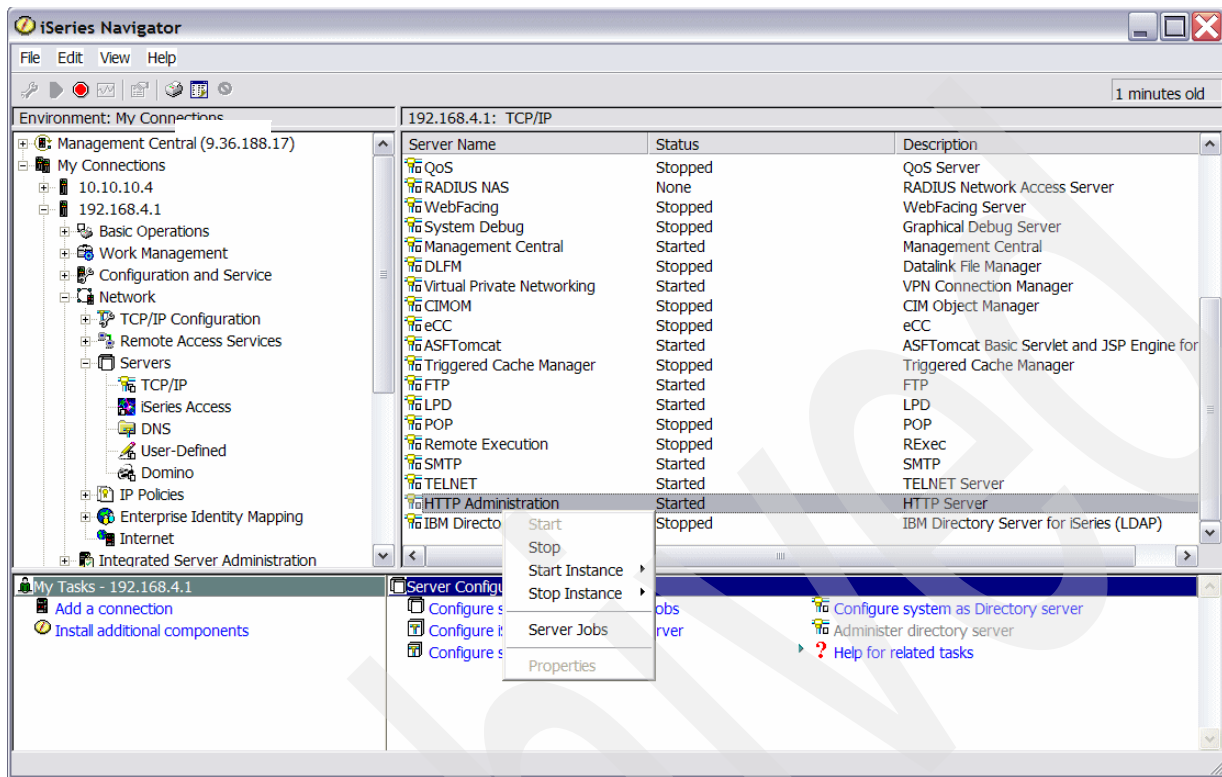

Figure 6-38 Starting HTTP Administration server
3. Select **Network** → **Servers** → **TCP/IP** and check in the right pane to see whether the HTTP Administration server is started. If not, right-click **HTTP Administration** to start it (Figure 6-38).